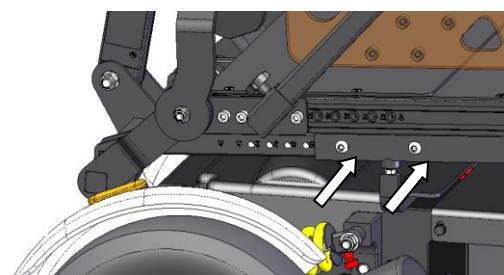

Figure 9 : adjustment depth arm inf. of seat
- Remove the two screws from the bottom seat bar (see Figure 9) *on both sides of the chair*